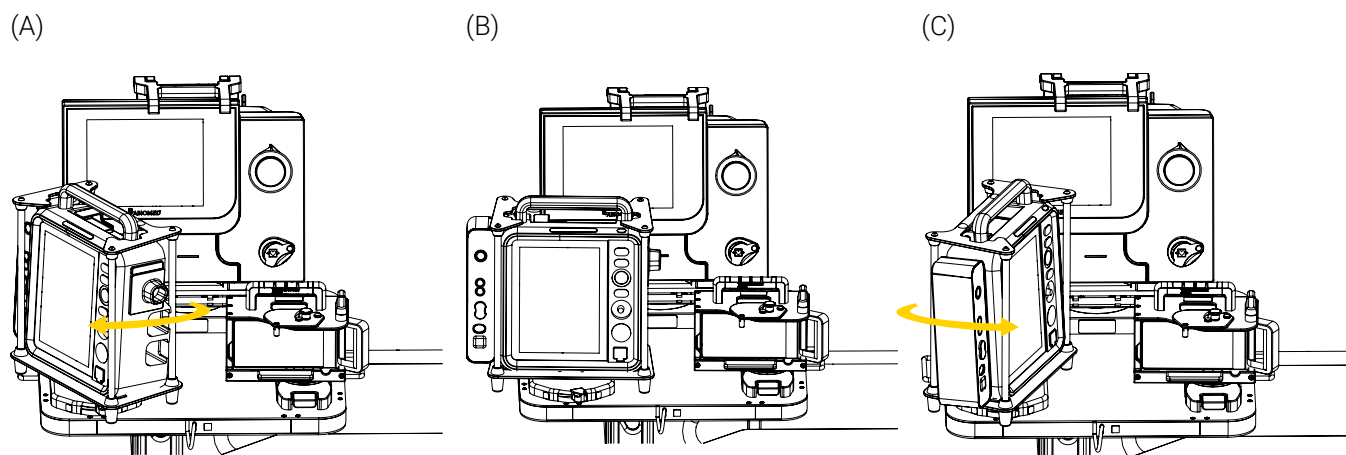

Figure 46: Rotating the medical device
4. Turn the medical device up to 360° clockwise or counterclockwise to the desired position (Figure 46).